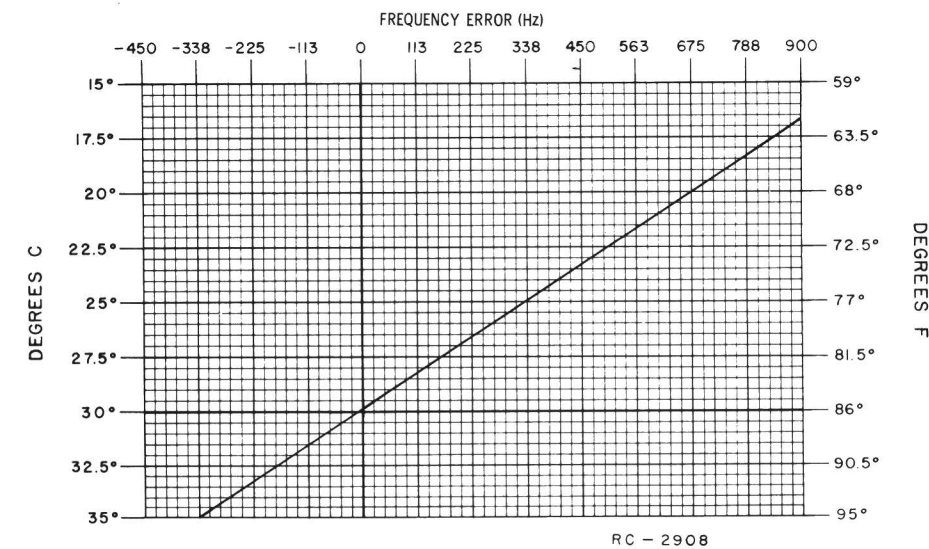

Figure 4 - Crystal Module Frequency Offset Chart
To set crystal frequency using "beat frequency" method, the temperature should be at 30°C (86°F). If the temperature is not 30°C, then offset the "ON FREQUENCY" signal (at the receivers input), as a function of actual temperature, by the frequency ERROR FACTOR shown in Figure 4.
2. Maintain the radio at 30°C ( $\pm 5^\circ\text{C}$ ,  $-10^\circ\text{C}$ ) and offset the oscillator, as a function of actual temperature, by the frequency error shown in Figure 4.